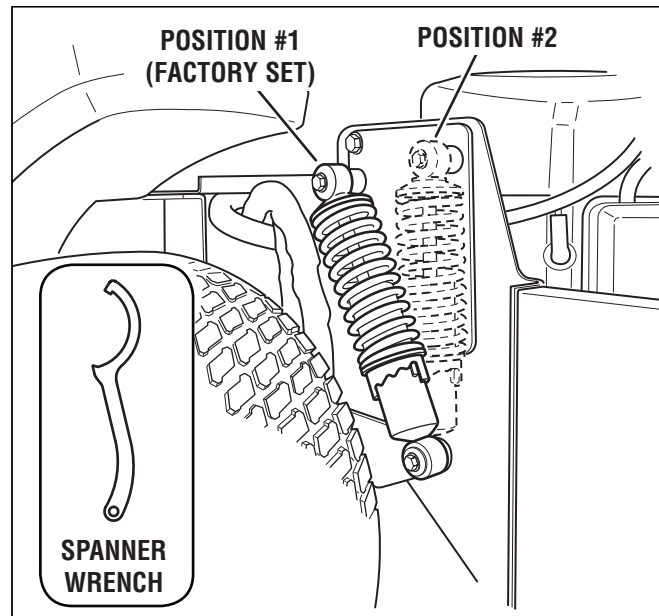

Figure 38. Suspension Adjustment
4. See Figure 38. Using the supplied spanner wrench (P/N: 5022853), insert the tip of the wrench into the notch in the pre-load adjuster. While holding the wrench in place with both hands:
4. Remove the upper shock mounting hardware and pivot the shock to position #2 (see Figure 38). Adjust the jack to align the shock mounts to the shocks.